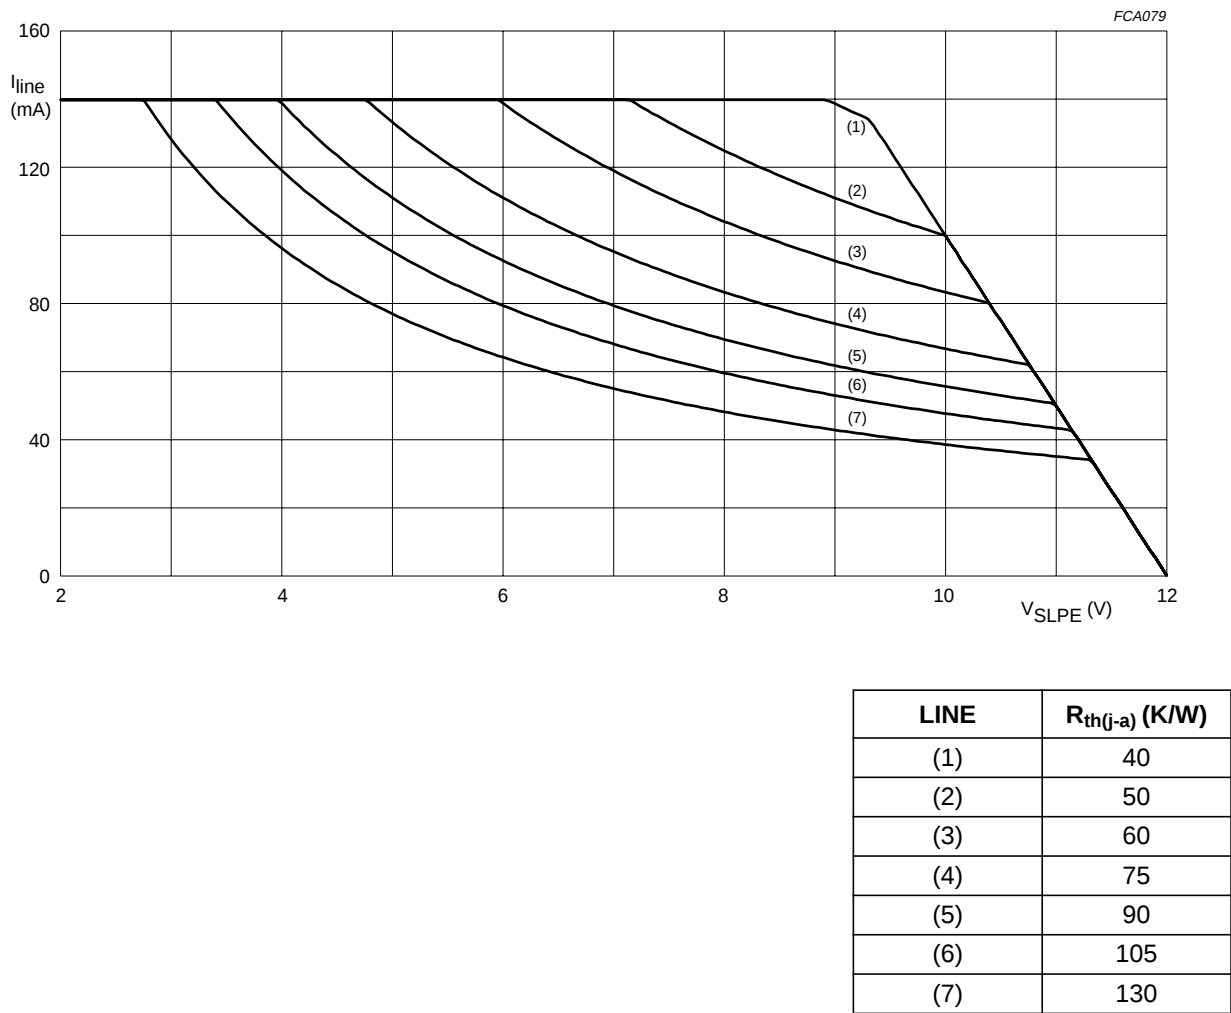

Fig.17 Safe operating area at $T_{amb} = 75\text{ °C}$ (TEA1098UH).
- Mostly dependent on the maximum required ambient temperature, on the voltage between LN and SLPE and on the thermal resistance between die ambient temperature. This thermal resistance depends on the application board layout and on the materials used. Figure 17 shows the safe operating area versus this thermal resistance for ambient temperature T_{amb} = 75 °C